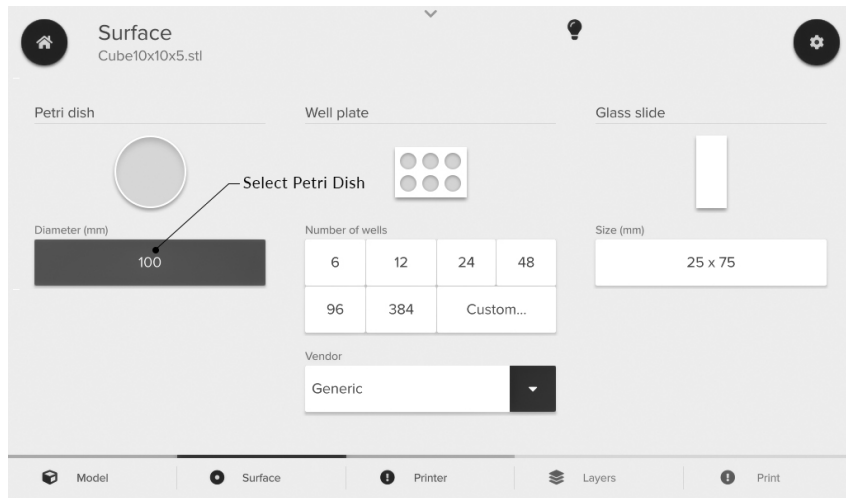

Figure 8: Select a print surface from the Surface menu.
4. Select a surface to print on (e.g., a Petri dish) and proceed to the next menu (Figure 8).